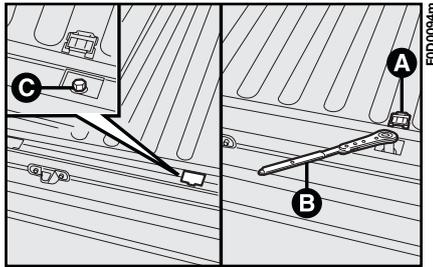
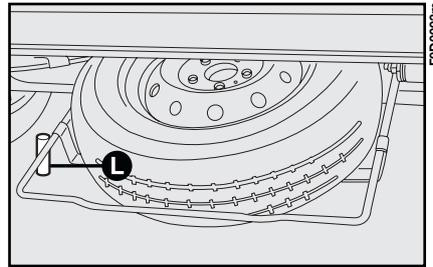
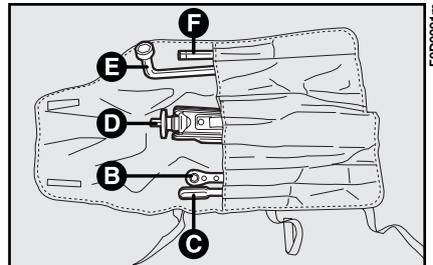

fig. 2
fig. 4
fig. 5
- remove the two plastic caps **A**-fig. 2;
- unscrew the two bolts **C**-fig. 2 with the ratchet wrench **B** and extension **F**-fig. 5;
- release the spare wheel support with the wrench **E**-fig. 5 inserted in seat **L**-fig. 4 on the left-hand side of the support and remove the wheel from under the floor.
- 2) Turn the ring **D**-fig. 5 to open the jack partially.
- 5) Fit the extension **F**-fig. 5 and the ratchet wrench **B** on the nut ring and raise the vehicle until the wheel is a few inches off the ground. When turning the jack handle make sure that it can be used easily and take care not to scrape your hand against the ground.